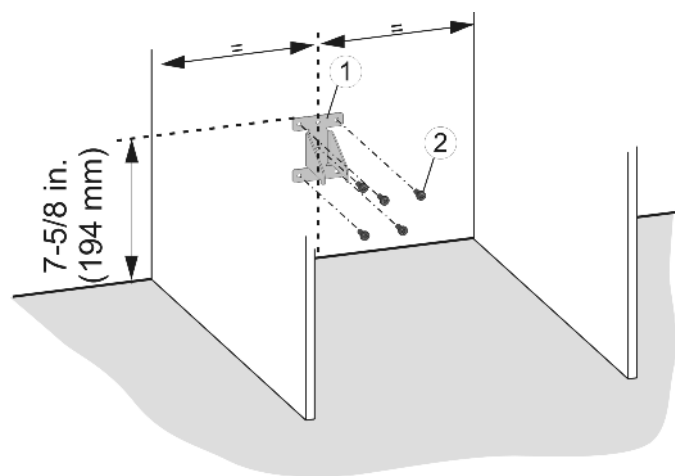

Fig. 26
- Install the anti-tip device Fig. 26 (1) using appropriate screws Fig. 26 (2).